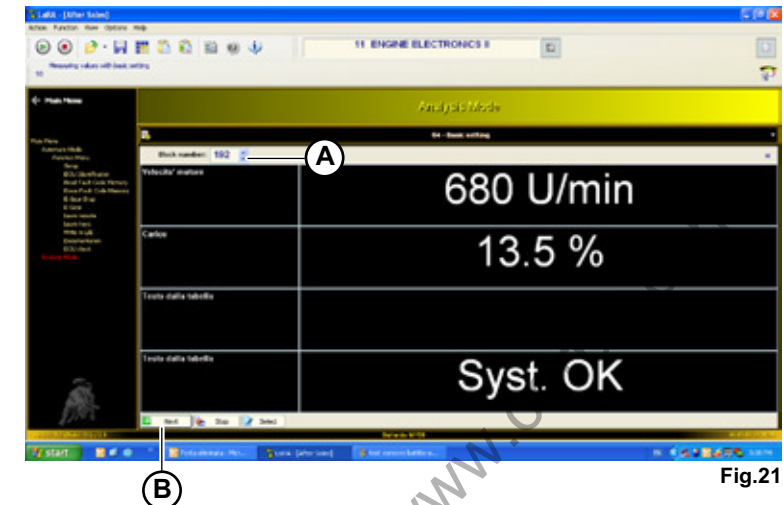

Fig.21
- Select routine 192 inside the block number (**A-Fig.21**) on the MASTER "01" control unit.
- Start the connection () and press the start push-button (**B-Fig.21**).